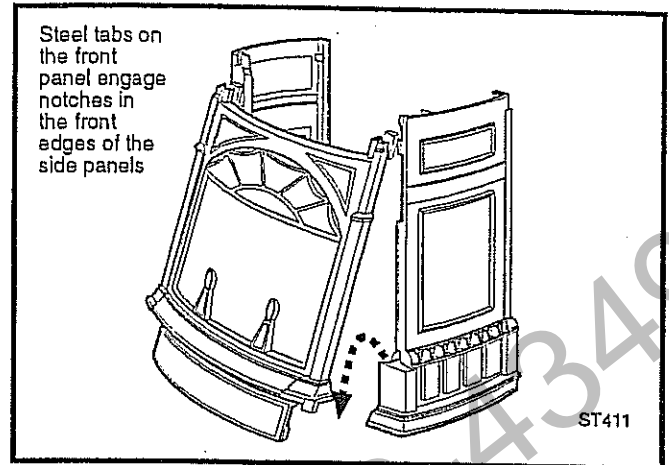

Fig. 67 Remove the front plate.
2. Lift the Front Plate up and then swing the bottom out to disengage it from the heater shell. (Fig. 67)
Replace glass only with Vermont Castings Part # 160-1691. Refer to Figures 67 and 68, and previous instructions for removal of the damaged glass panel.
7. Replace the front, holding the bottom edges slightly away from the stove while engaging the steel tabs at the top with notches in the stove's side panels. (Fig. 67) Swing the bottom of the front panel into place against the sides panels, and engage prongs on the bottom corners with notches in the tops of the stove legs. The front is in place properly when you cannot pull it toward yourself without also lifting it.